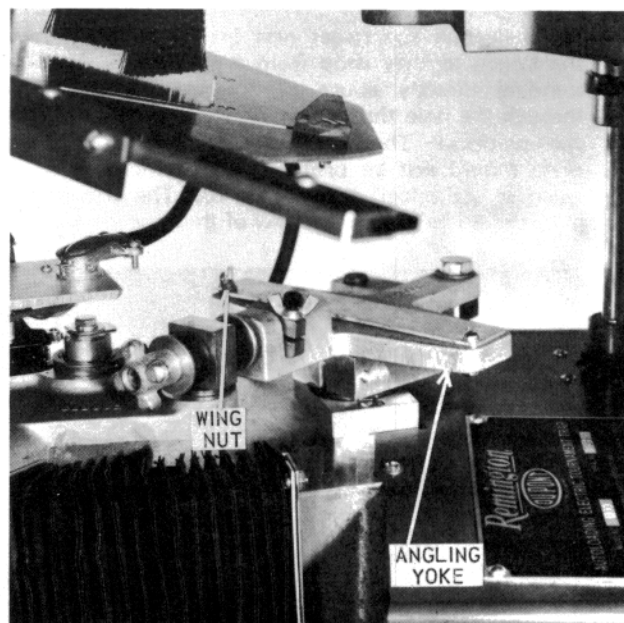
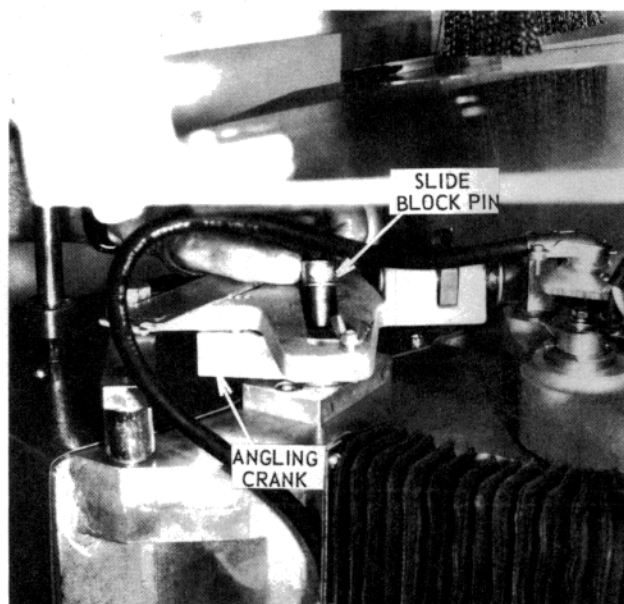

Figure 7 — Angling Yoke
Figure 8 — Checking Slide Block Pin Position
4. Loosen the angling yoke cover wing nut (see Figure 7) and check under the cover to see that the slide block pin is in the number 9 hole in the angling crank (see Figure 8 and 9). This centers and locks the trap to permit adjustments that might be needed to correct target flight. **CAUTION: DISCONNECT POWER CORD BEFORE MAKING ADJUSTMENT.**